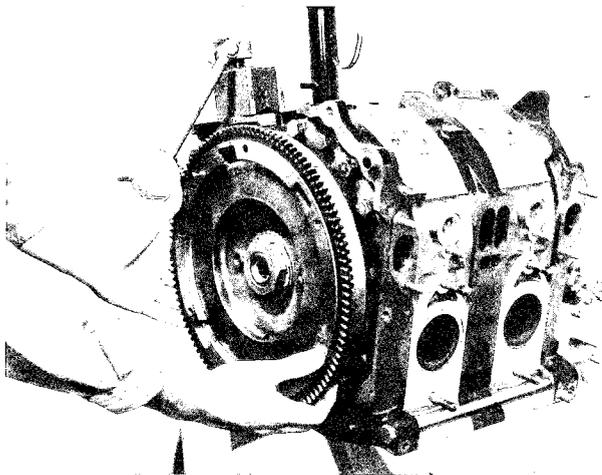

Fig. 1-83 Checking eccentric shaft end play
13. To check the eccentric shaft end play, position a dial indicator on the flywheel or the counter weight so as to contact the feeler with the rear housing as shown in Fig. 1-83.